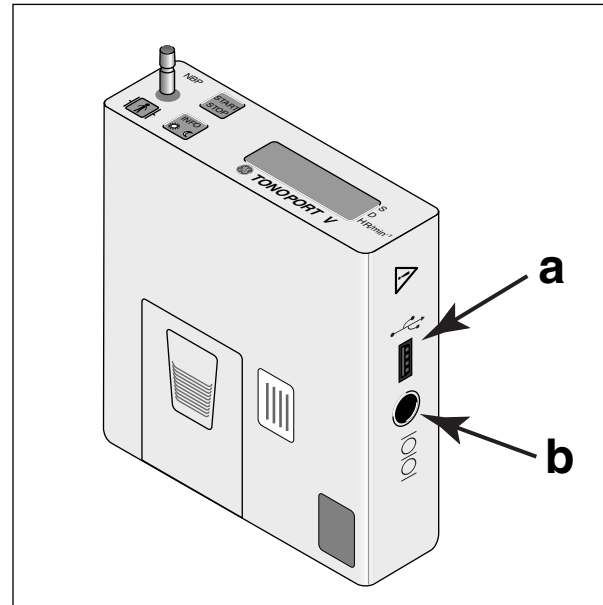

Fig. 5-1 Connections for PC cable
- via cable 2001589-040, if the USB port of TONOPORT V is used (**a** Fig. 5-1)
- via cable 2001589-011, if the serial port of TONOPORT V is used (**b** Fig. 5-1)
If you will be using the serial port of TONOPORT V (Fig. 5-1, b) installation is now complete.
To be able to use the USB port of TONOPORT V (Fig. 5-1, a), you will have to install the USB driver and check the communication as described below.